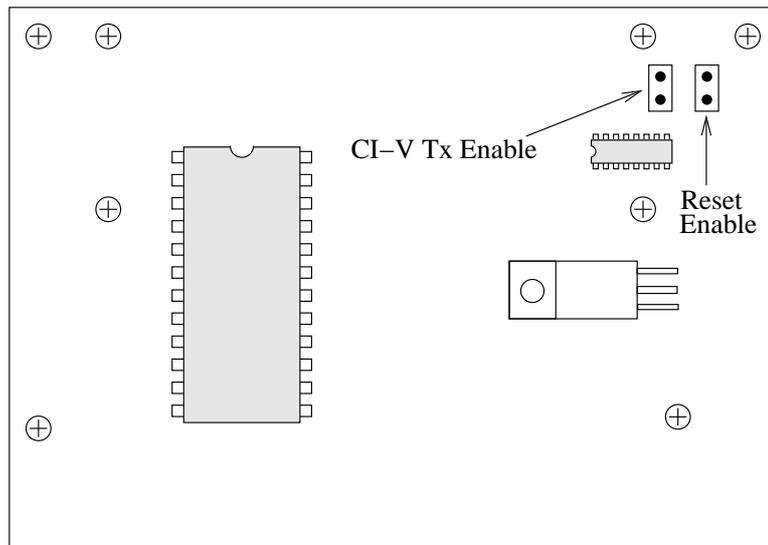

Figure 1.8: AT-AUTO_(tm) Jumper Settings
1. Turn *Off* the AT-AUTO_(tm), remove its top cover, and configure its control board jumpers so that it is able to transmit data over the CI-V bus by jumpering the “TX Enable” pin. See Figure 1.8 (page 15). Replace the top cover.